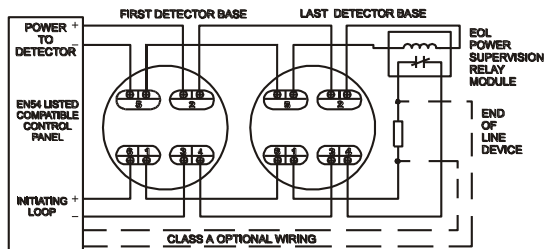

Fig. 1.B Installing the 4-wire multiple station smoke detector base
Figure 1 shows the typical wiring diagram of the 4-wire multiple-station smoke detector system.
- (A) Position all the wires flat against terminals.
- (B) Fasten the wires away from connector terminals.
3. The end-of-line device shown in Fig.1 should be compatible with the control unit. The end-of-line supervisory relay used should be rated for the DC power voltage used.